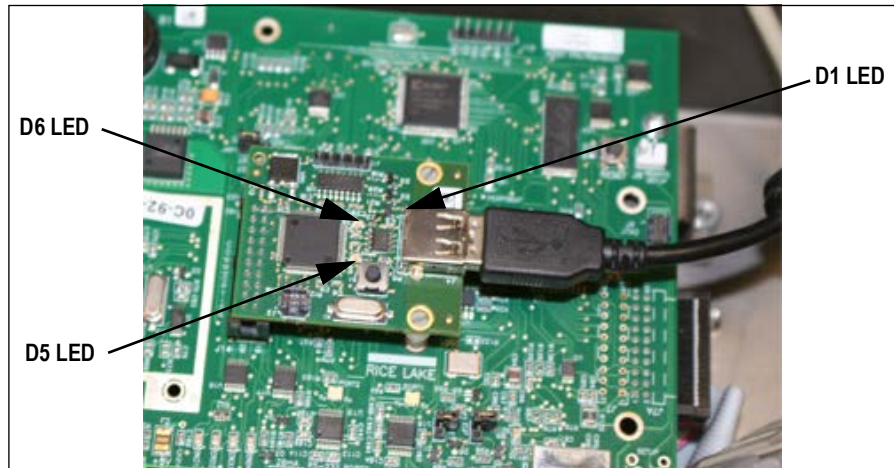

Figure 2-16. Installing the USB Option Card
5. Several signal LEDs are located on the USB option board as shown in Figure 2-16.